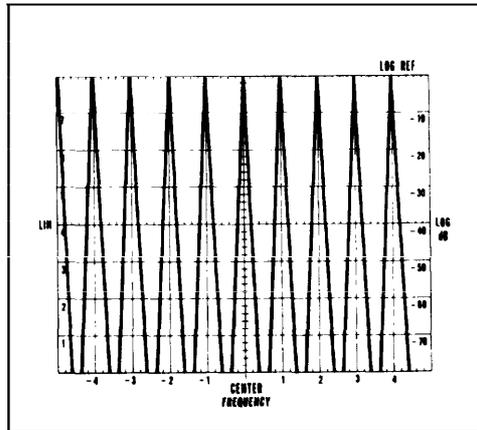

Figure 5-14. 50 MHz Bandpass Flatness Display
- Tune FREQUENCY for display indicated in Figure 5-14 when FINE TUNE is rotated in 100 kHz steps.